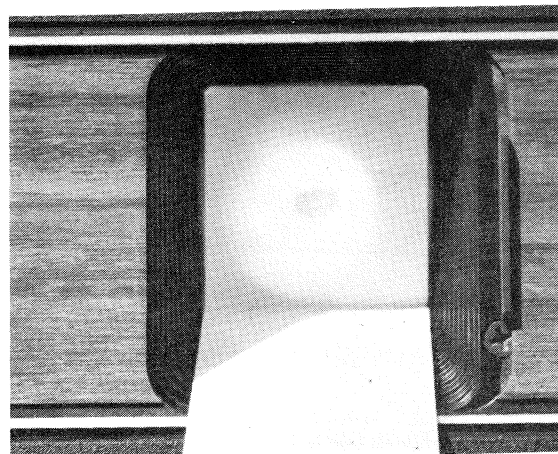

Figure 2-5. CHECKING ILLUMINATION CENTERING
5. Insert square end of card in contact with front window (Figure 2-5). The lamp filament should be a dark spot in the center of illuminated circle.... if not, try another projection lamp then adjust as follows.